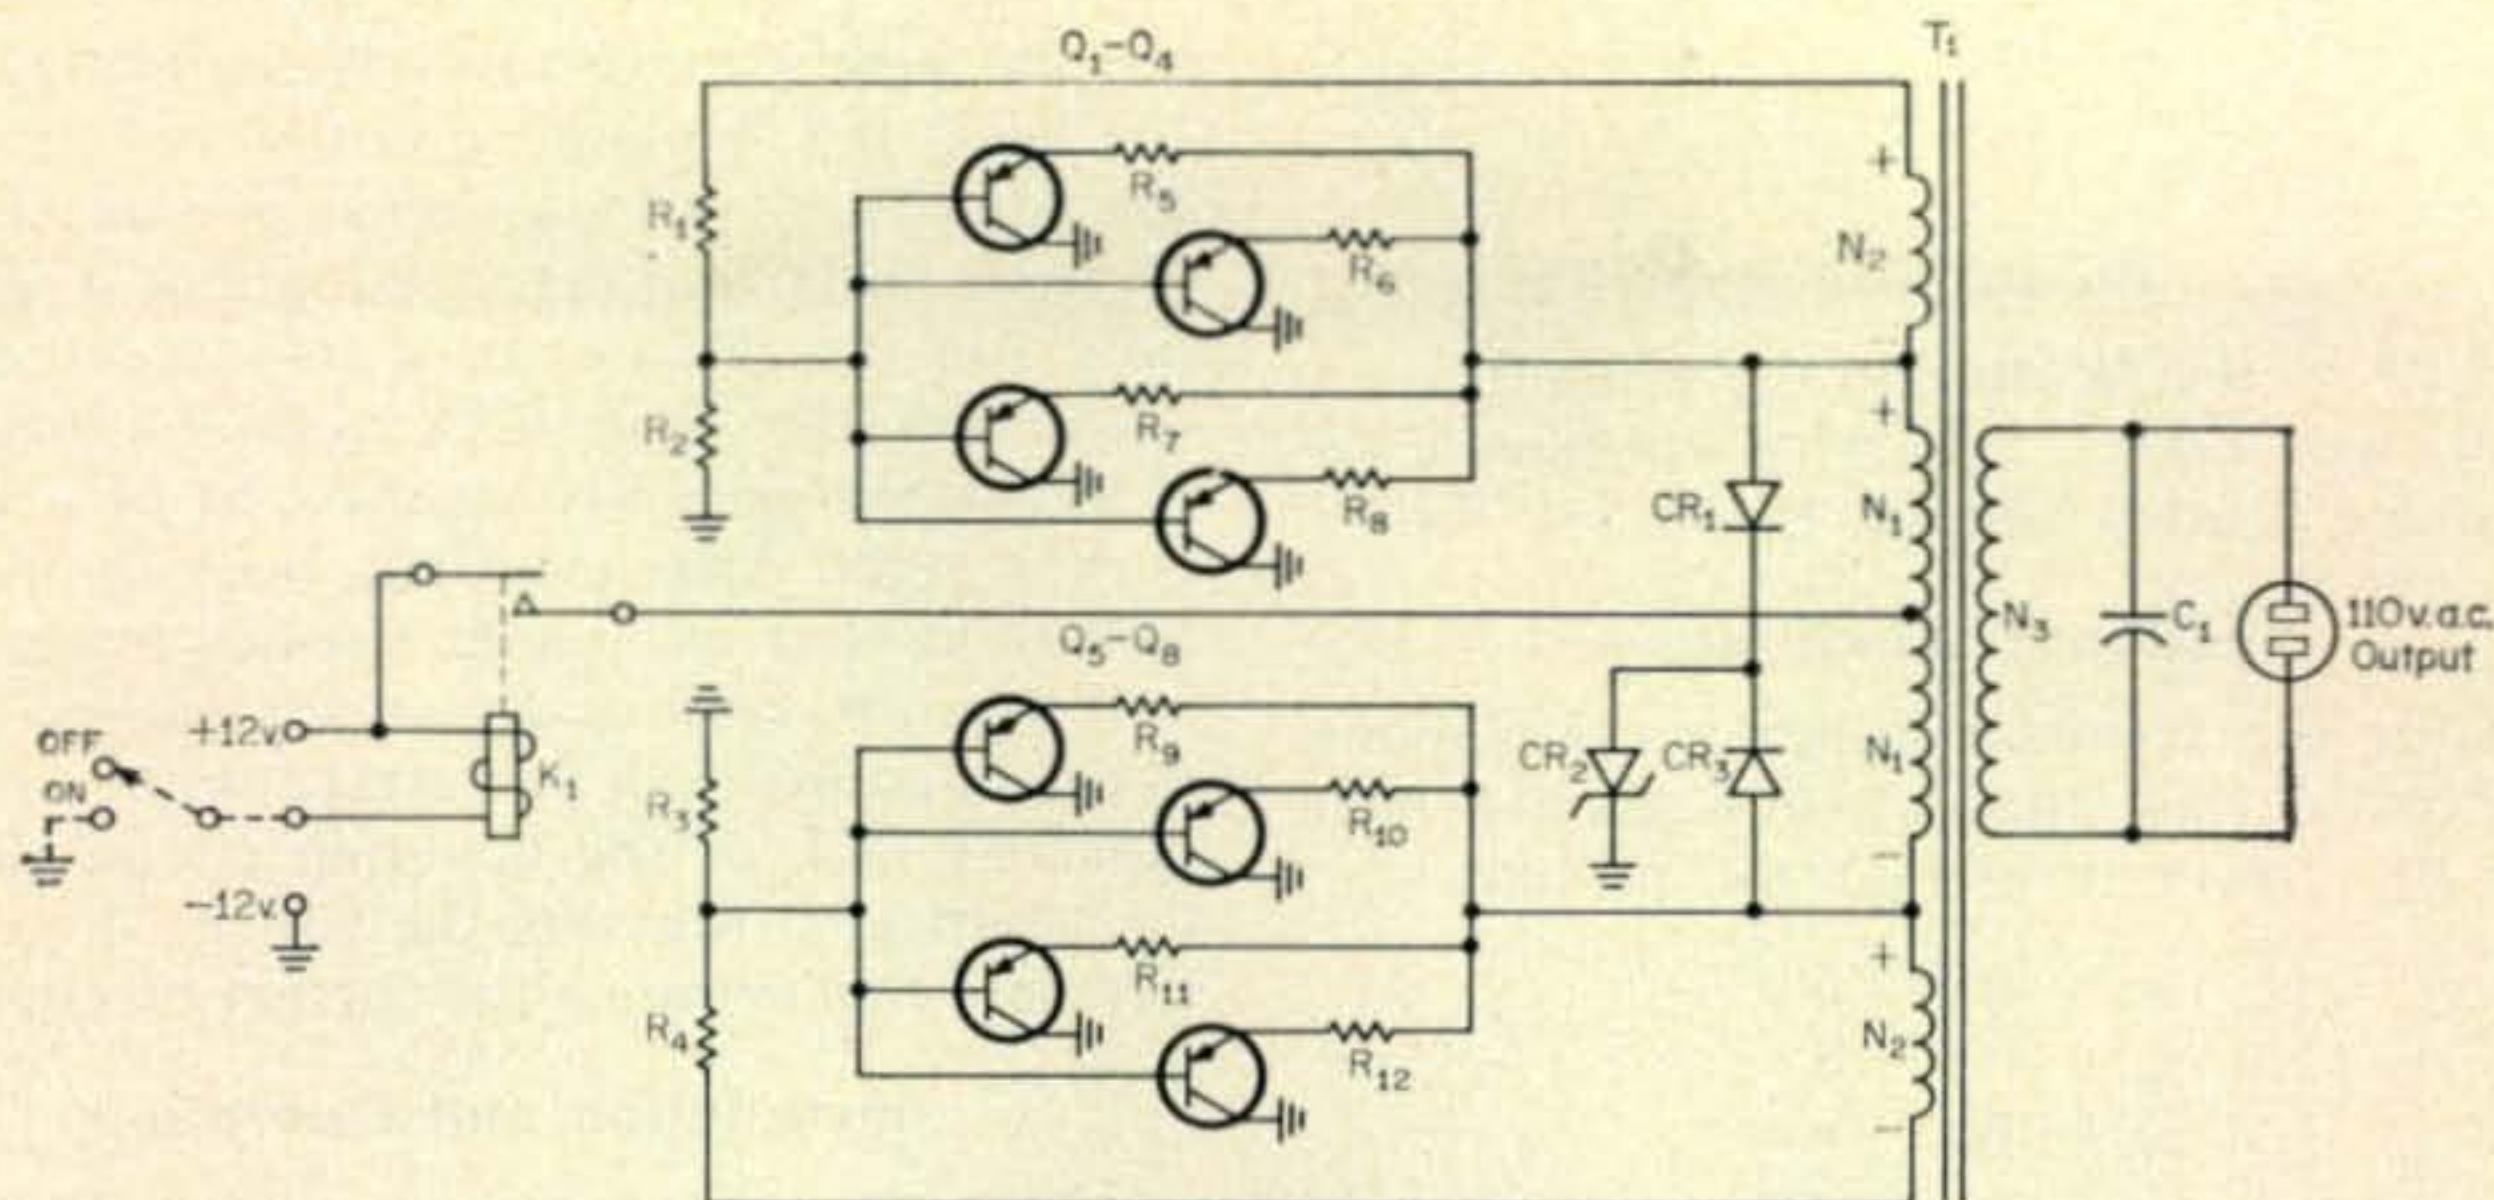

Fig. 1—Circuit of a 12 v.d.c. to 117 v.a.c. kilowatt inverter.
The inverter circuit shown in fig. 1 uses eight inexpensive transistors. The transistors, as well as zener diodes, are on sale at most big name parts house bargain counters. Get the 40 watt, p.n.p. germanium types which are equal to 2N173, 2N441, 2N442, 2N1099, 2N1100, 2N278 and use the TO-36 base. Get a few extras; at 88¢ they are cheap. The four-paralleled transistors provide a 60 amp steady state rating. Although they must switch the 110 amp calculated current, four will do the job if you are somewhat judicious about tuning periods and use speech only on s.s.b. As a general rule, a pair of transistors will switch 20 times the Class A power dissipation ratings of one transistor.
Fig. 1 (A)—A bar of N type semiconductor material forms the channel for the fet and acts as a poor conductor. (B) The addition of two facing P type sections creates a "gate" around which a depletion region is formed. (C) Biasing the gate enlarges the depletion region reducing the cross-sectional area.